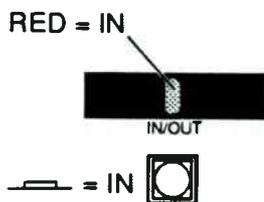

Fig. 5-4. COMPELLOR is "on-line".
- After you are satisfied with the settings in steps 2 through 4, press the IN/OUT Switch to indicate IN (Red LED) so that the COMPELLOR is on-line, as shown in Fig. 5-4.